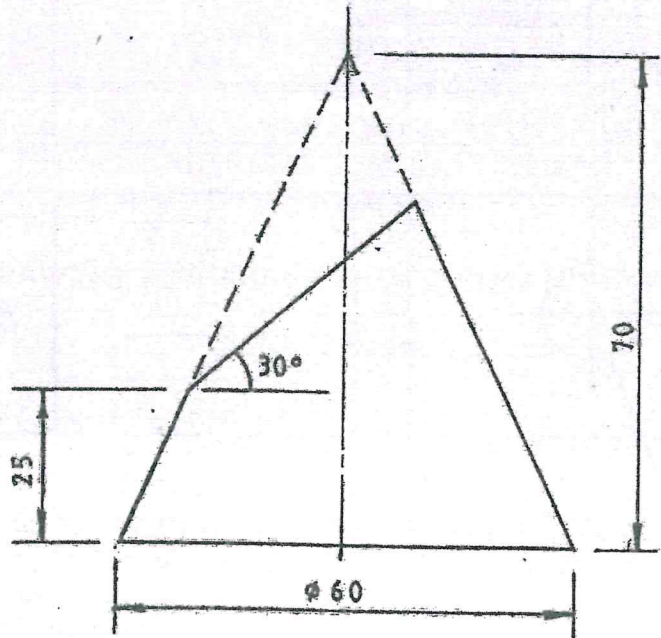

Fig. 2
6. Figure 2 shows an elevation of a truncated cone. Redraw the given elevation and complete the following: